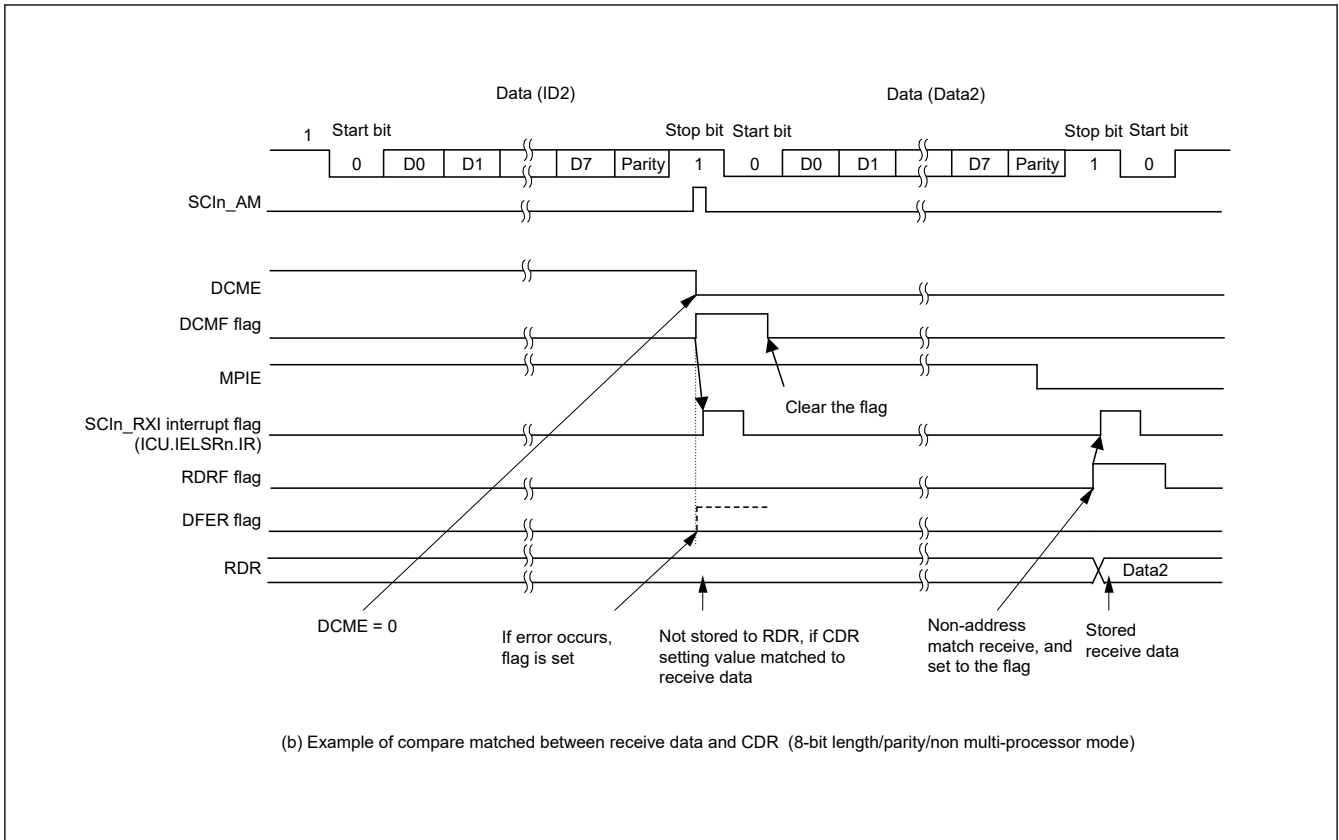
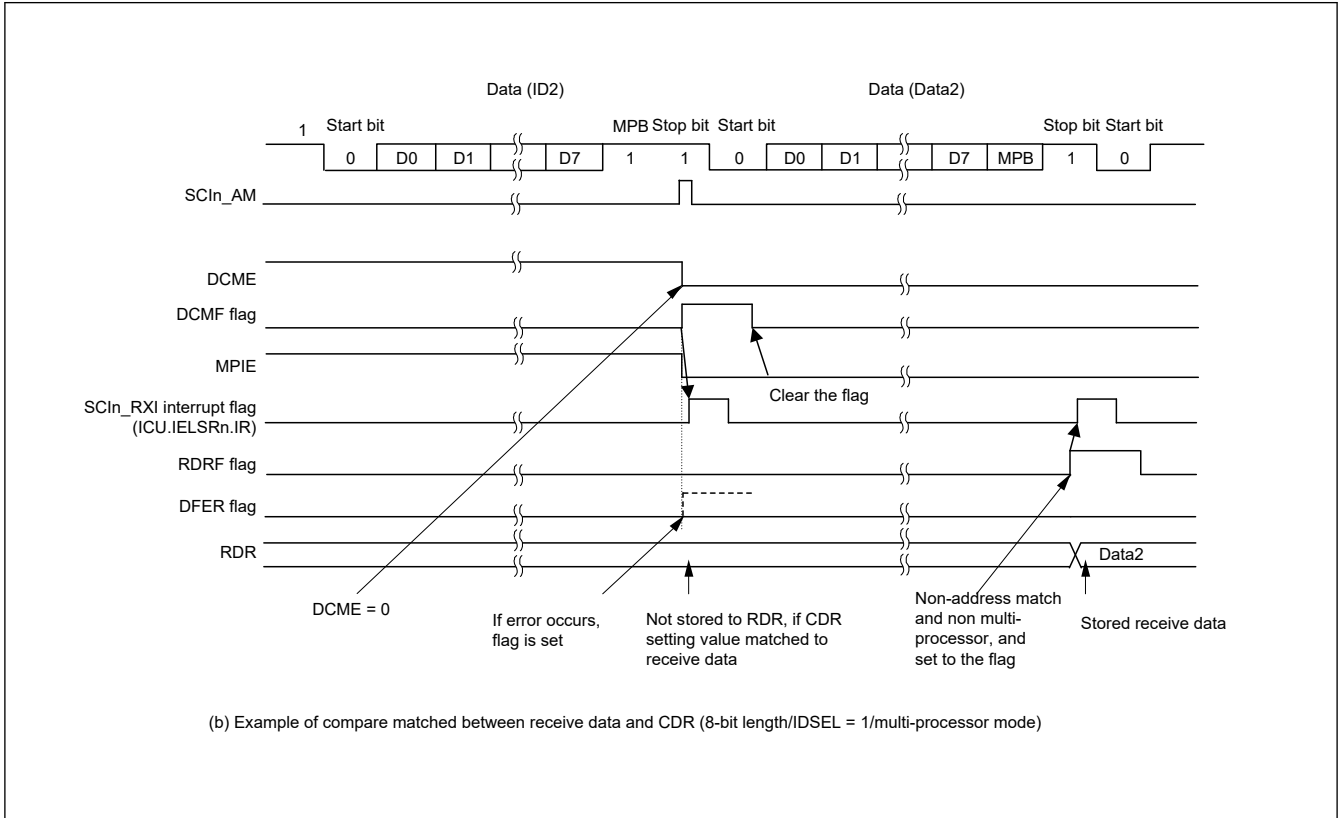

Figure 24.5 Example of address match (1) normal mode
Figure 24.6 Example of address match (2) multi-processor mode
Examples of the address match function are shown in Figure 24.5 and Figure 24.6.
6. If a framing or a parity error is detected (the DCCR.DFER flag or DCCR.DPER flag is 1) in the SCIn_AM interrupt handling routine, set the DCCR.DFER and DCCR.DPER flags to 0 and set the DCCR.DCME bit to 1 to enable the address match function again. If neither a framing nor a parity error has been detected (the DCCR.DFER and DCCR.DPER flags are both 0), set the DCCR.DCMF flag to 0. See Figure 24.5.